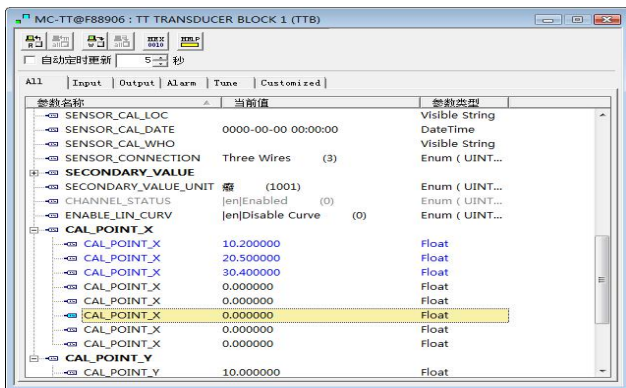

Figure 4.5 CAL\_POINT\_X configuration
- 2) Input standard signal via standard source, open the related transducer block, read the PRIMARY\_VALUE value and write it to the CAL\_POINT\_X array. For example, if the read value is 10.2, 20.5, 30.4, are written to the CAL\_POINT\_X array, shown as Figure 4.5. The calibration is finished.